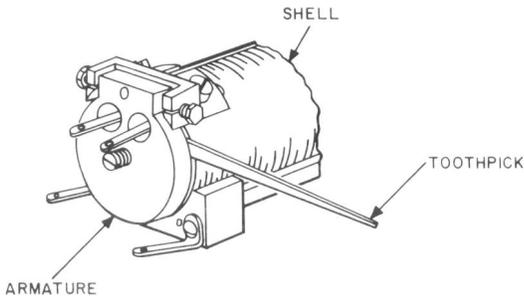

Fig. 13—Blocking 44-Type Relays - Nonoperated
(2) To block relays nonoperated, deflect the legs of the KS-19914 wedge toward each other and insert them between the armature and the core with the beveled edges toward the core.
3.10 44-Type Relays and 22-, 35-, and 56-Type Drops: Fig. 13—Block this apparatus nonoperated by inserting a toothpick between the armature and the frame or shell.